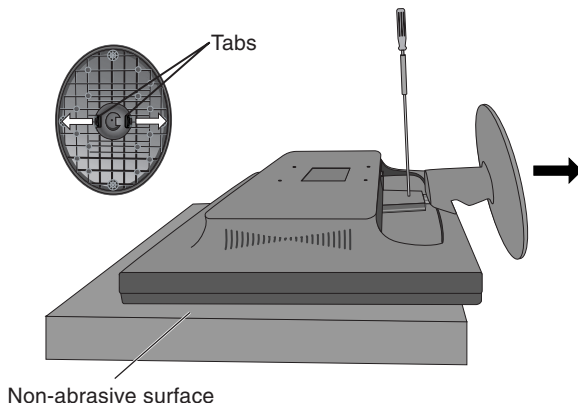

Figure R.1
2. Place monitor face down on a non-abrasive surface (**Figure R.1**).
3. Insert the thin rod into the hole in the back of LCD monitor and using your thumbs, press the tabs on the back side of base stand in the direction of the arrows the pull out the stand as indicated (**Figure R.1**).
1. Place monitor face down on a non-abrasive surface (**Figure R.1**).
2. Insert the thin rod into the hole in the back of LCD monitor and using your thumbs, press the tabs on the back side of base stand in the direction of the arrows the pull out the stand as indicated (**Figure R.1**).